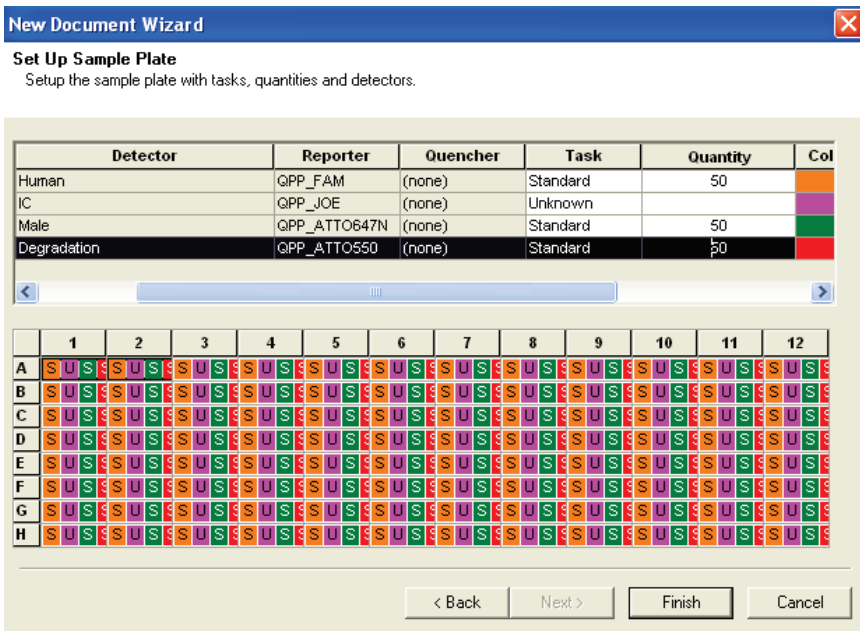

Figure 36. Setting up the sample plate.
12. Click **Unknown** in the Task column and then select **Standard** from the dropdown menu (Figure 36). Select **Quantity** for the appropriate detector and enter the quantity of DNA in the well according to Table 10, page 56.